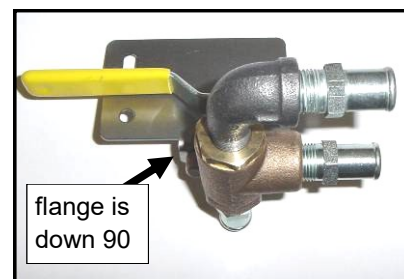

Fig. 3.5 (diverter valve and bracket assembly)
3.5 Per fig. 3.5, orient the diverter valve bracket so the bent flange with the two slots is forward and down. Attach the diverter valve to the bracket using two #8-32 x 3/8" long bolts. Use caution to avoid damaging the threads in the diverter valve. Begin the bolt engagement by hand to avoid potential cross threading.